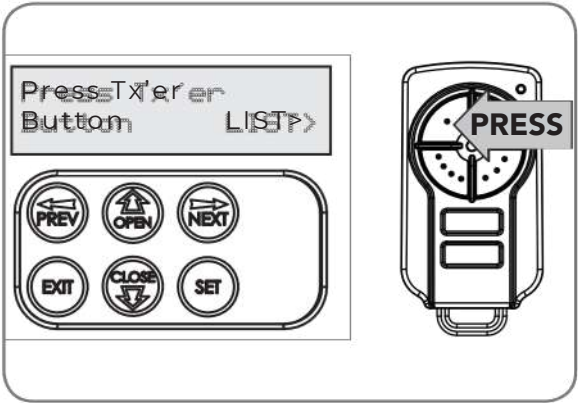

Fig 10.3
- d. Press the transmitter button you wish to use to operate the Gate Opener (e.g. button 1) (Fig. 10.3) .
- e. Press the same transmitter button again as prompted by the display (Fig. 10.3).